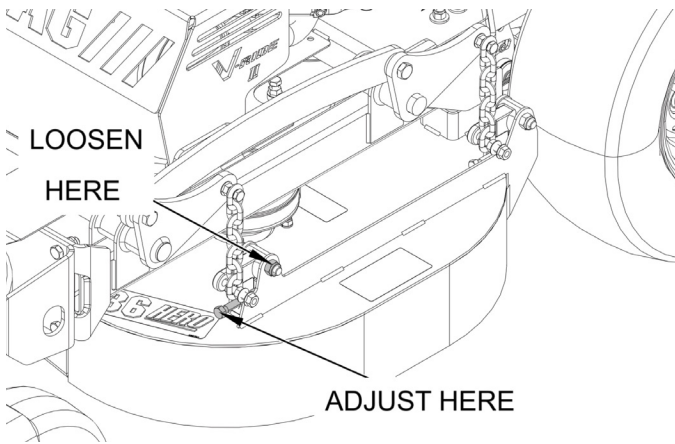
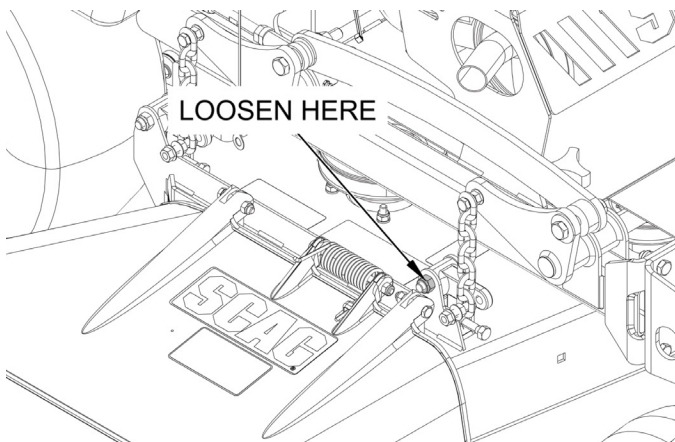

Figure 6-4. Cutter Deck Pitch Adjustment
Figure 6-5. Cutter Deck Pitch Adjustment
1. Loosen the elastic stop nuts securing the deck level links on the front of the cutter deck on both sides of the machine. See Figure 6-4 and Figure 6-5.
3. Tighten the elastic stop nuts to secure both front deck level links. This secures the cutter deck in the proper position. See Figure 6-4 and Figure 6-5.